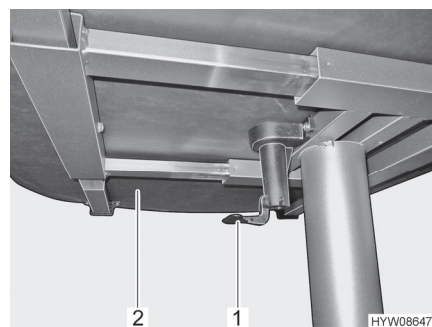

Fig. 81 Lever for moving the table top
- Pull or press down the lever (Fig. 81,1).
- Move the table top (Fig. 81,2) to the desired position.